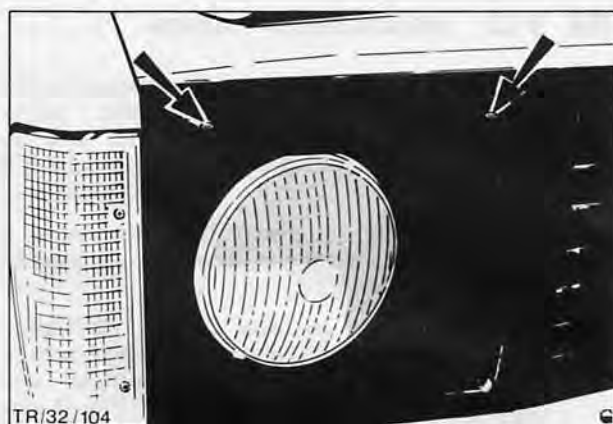

Fig. 4. Headlamp surround securing screws
2. Remove two screws securing headlamp surround to vehicle, Fig. 4 and remove surround.